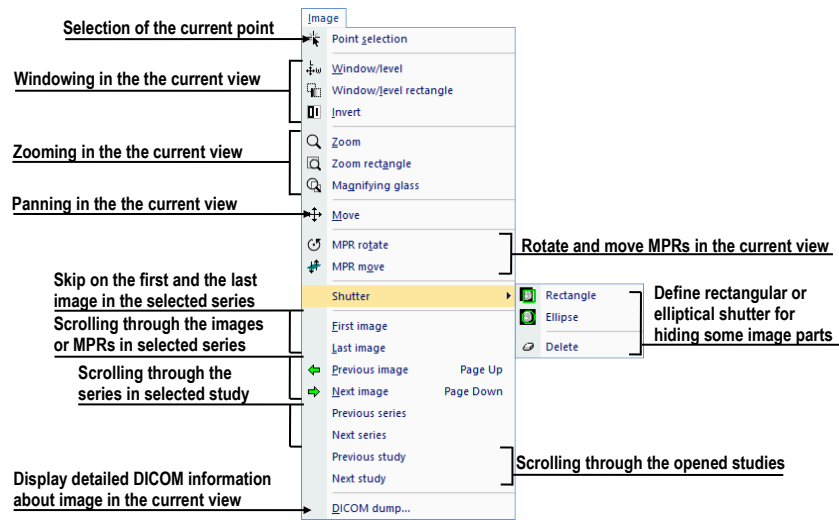

Figure 43 – Image menu
- **Image** – viewing and handling of the images. Contains a comprehensive group of functions for windowing and zooming images in a view, creating shutters and reading raw DICOM data of images (see Figure 43).